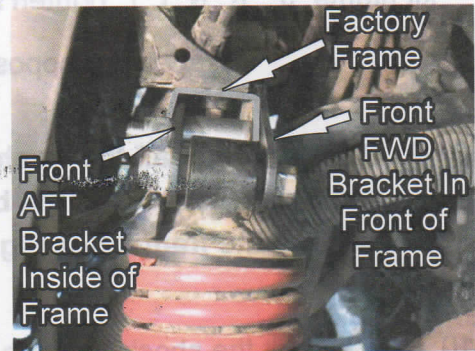

Fig.2
3. Locate the (2) Front Upper Shock Mount Brackets (items "B" & "C" above) provided in your kit. Now you will install them onto the factory frame. First, you will slide the **FWD** bracket plate (item "B") all the way thru from the side you are on to the other side, sliding it "in front" of the factory frame, or on the outside of the frame. Now, slide the **AFT** bracket plate all the way thru as you did the **FWD** plate, except this one goes "inside" the frame. Fig.2 shows this placement.